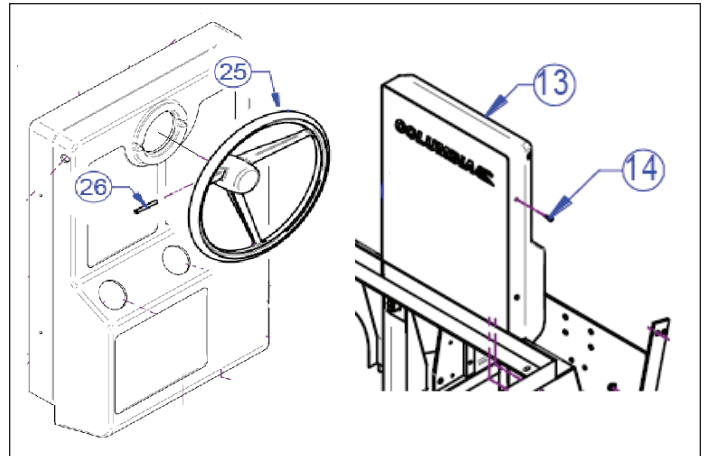

Figure 6-6. Steering Wheel and Console
1. Remove pin (26) using a soft drift of the same size (Figure 6-6). Pull steering wheel from sprocket.
2. Remove four screws (14) on sides of console and pull console away from frame, exposing the upper and lower steering groups.